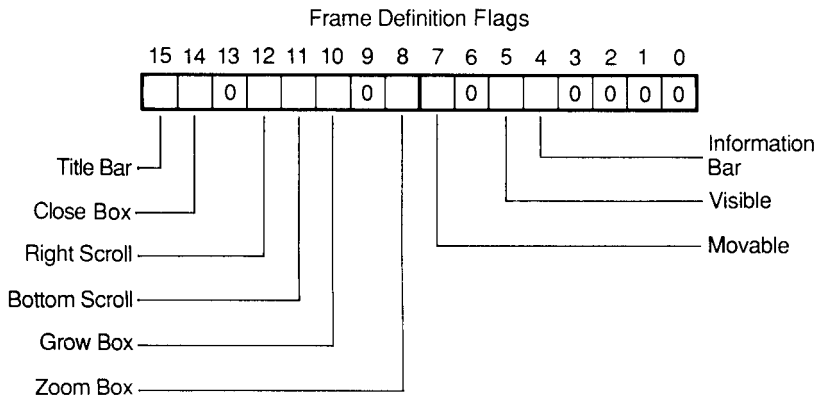

Figure 9-5
The *wFrame* parameter is a word-size bit pattern that is arranged as shown in Figure 9-5. Here, Title Bar, Close Box, Right Scroll Bar, and so on, are switches by which you specify the controls the window should have; a 1 means the window has that control, a 0 means it does not. A 1 in the "Movable" bit specifies that the window may be dragged by its title bar. The "Visible" bit stipulates whether the window should be visible (1) or invisible (0). Generally, you should make it invisible to start. Then, after you have drawn its contents, do a ShowWindow call to make it visible.